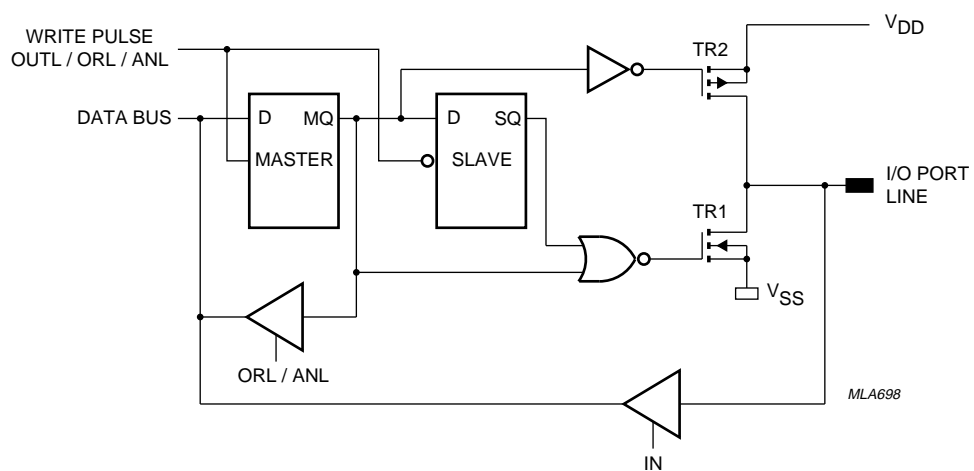

Fig.13 Push-pull output.
- Option 3 **Push-pull**; drive capability of the output will be 5 mA (typ.) at  $V_{DD} = 3$  V in both polarities. Since short circuit currents would flow during input, push-pull lines must only be used as outputs (see Fig.13).